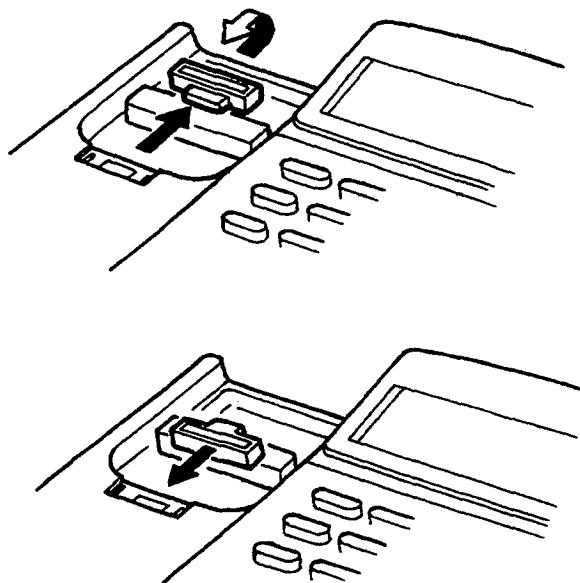

Figure 4-14 Wall Mounting Preparation
2. Slide the hanger out. Face the projected side upward, and install it back in the original position. Refer to Figure 4-14 - Wall Mounting Preparation.